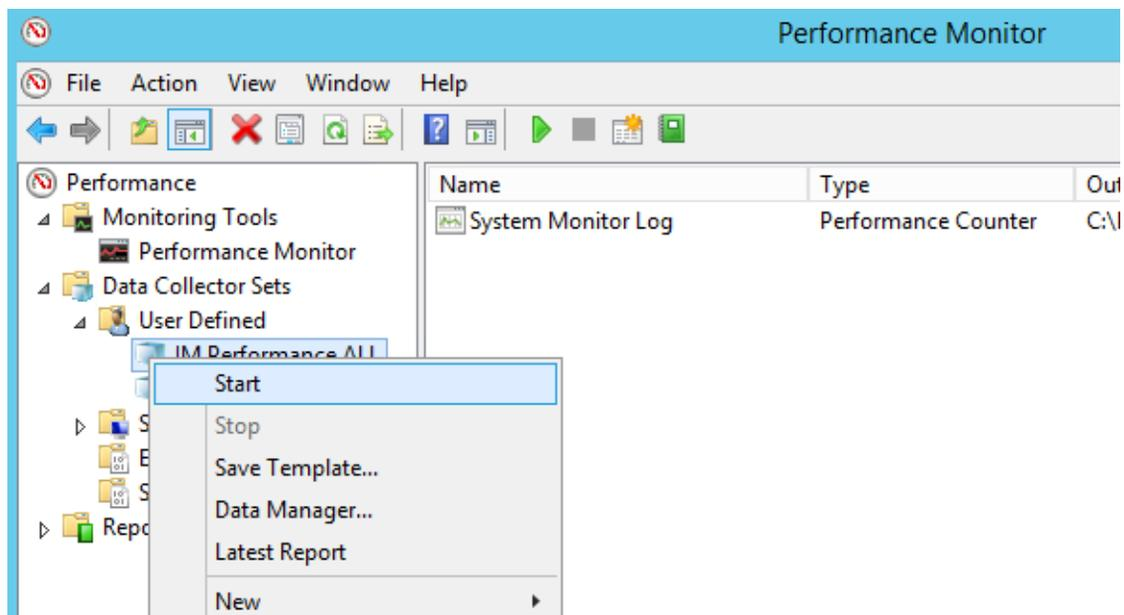

Figure 84. Start and Stop Collector Set
6. Start and Stop the user defined Collector Set as shown in Figure 84. Once stopped double-click the file specified in the Data Collector Set configuration to open the log file.